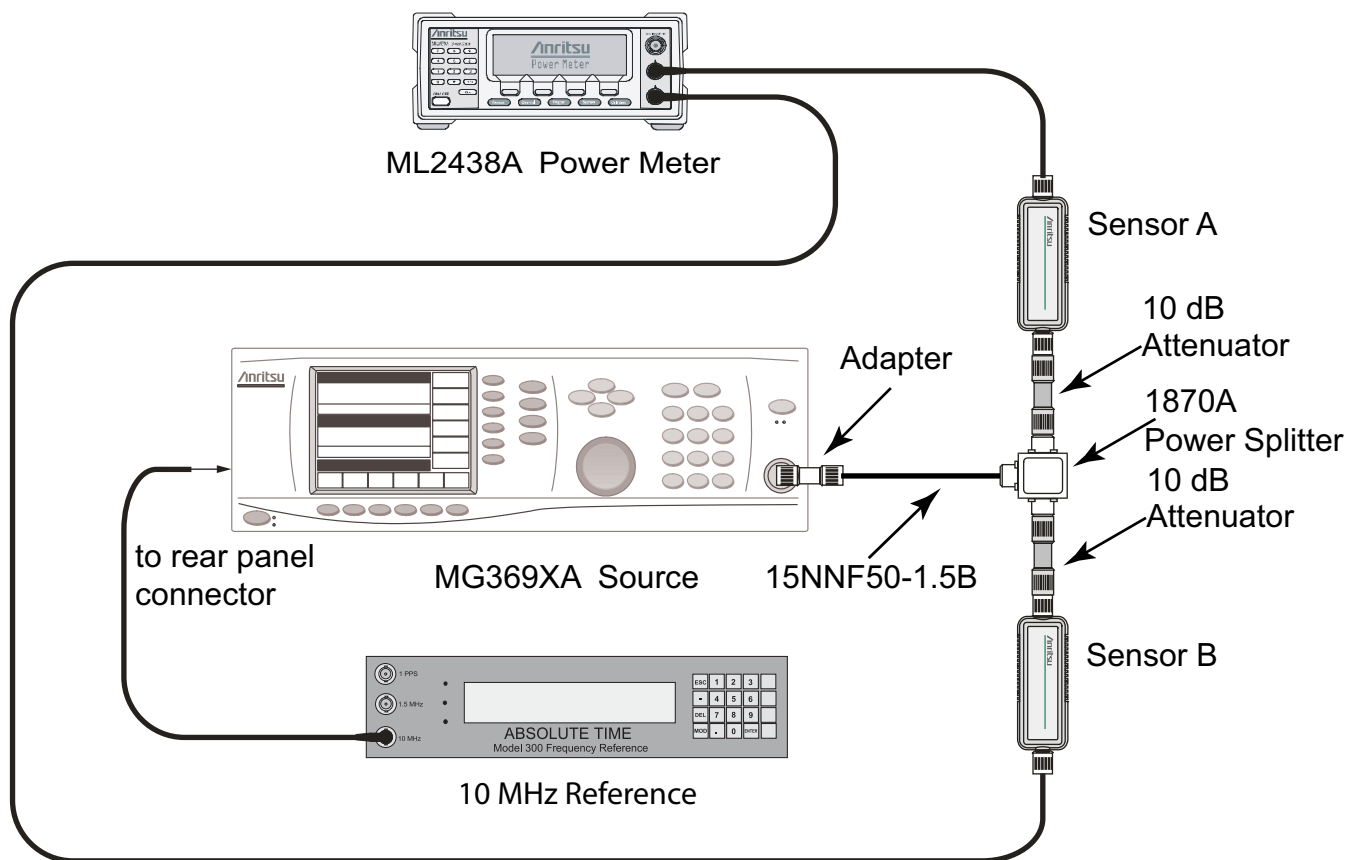

Figure 2-13. 9 kHz to 100 kHz Amplitude Accuracy Verification – Characterization Setup 1
1. Connect the equipment as shown in Figure 2-13.